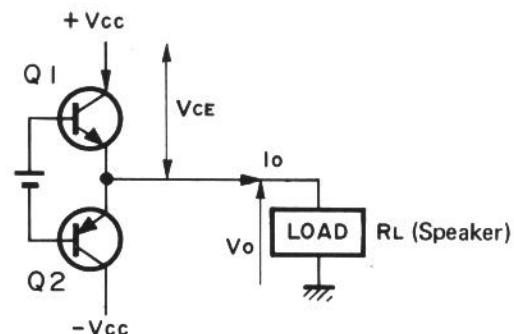

Fig. 4 SEPP Circuit
- (1) Final transistor
- (2) Power transformer
- (3) Power circuit (rectifying diodes, etc.)
- (4) Lamps, etc.
The following explanation is concerned with item (1), above. Consider a class B SEPP circuit as shown in Figure 4. The power consumption P_c of each of the transistors can be expressed as the product of the collector current I_c and the collector-emitter voltage V_{CE} . Thus